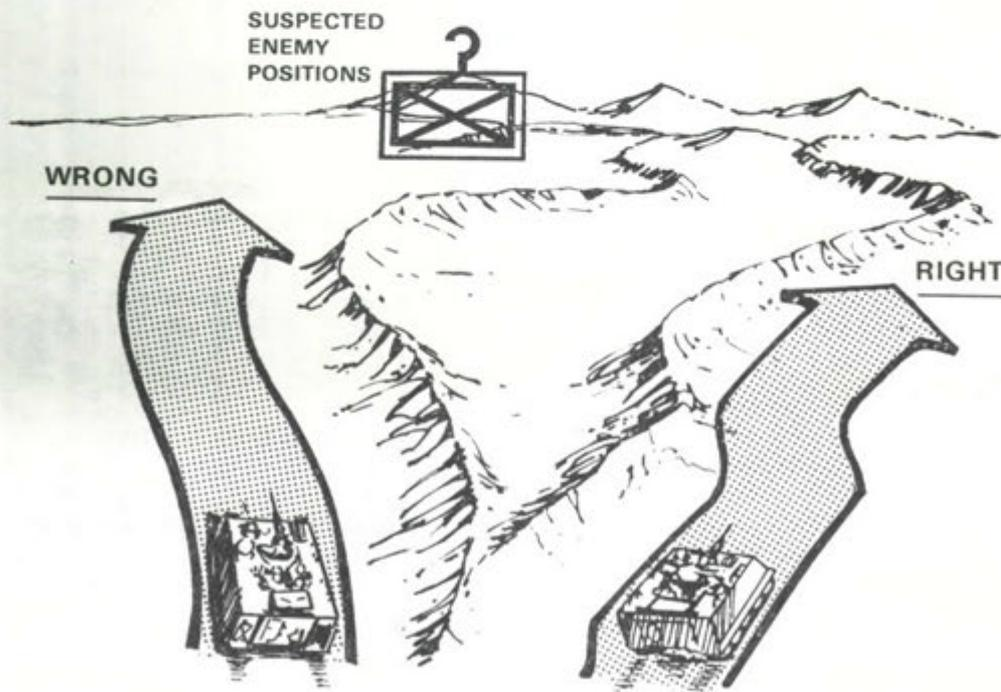

Figure 1.
1. The vehicle commander should give the driver clear, specific instructions as to the route which affords the best use of available cover and concealment (figure 1).